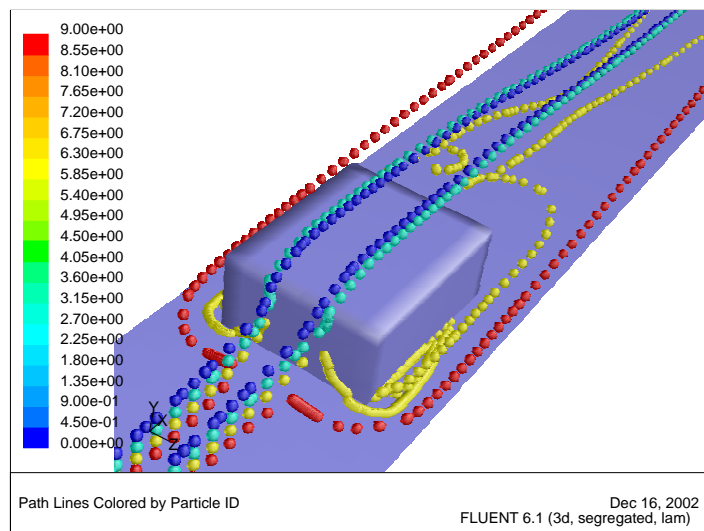

Figure 22.15: Sphere Pathlines Shown on a Display of the Chip and Board Surfaces.
- (g) Rotate the display so that the flow field in front and in the wake of the chip is visible, as shown in Figure 22.15.